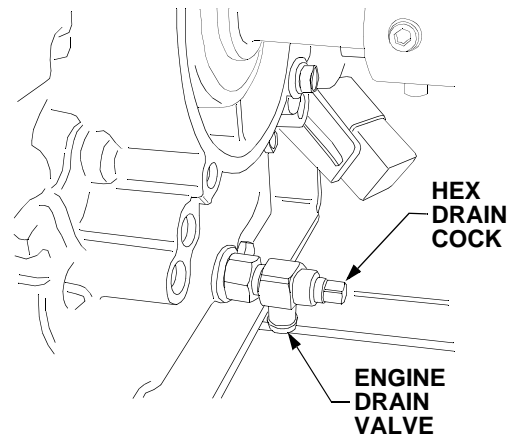

Figure 48
- Locate the engine drain valve on the rear of the engine (See Figure 48). Place a suitable container below the open end of the drain valve to collect the old oil.
- Turn the valve drain cock fully clockwise to close the valve, and clean any residual oil from the valve. Refer to Figure 48.